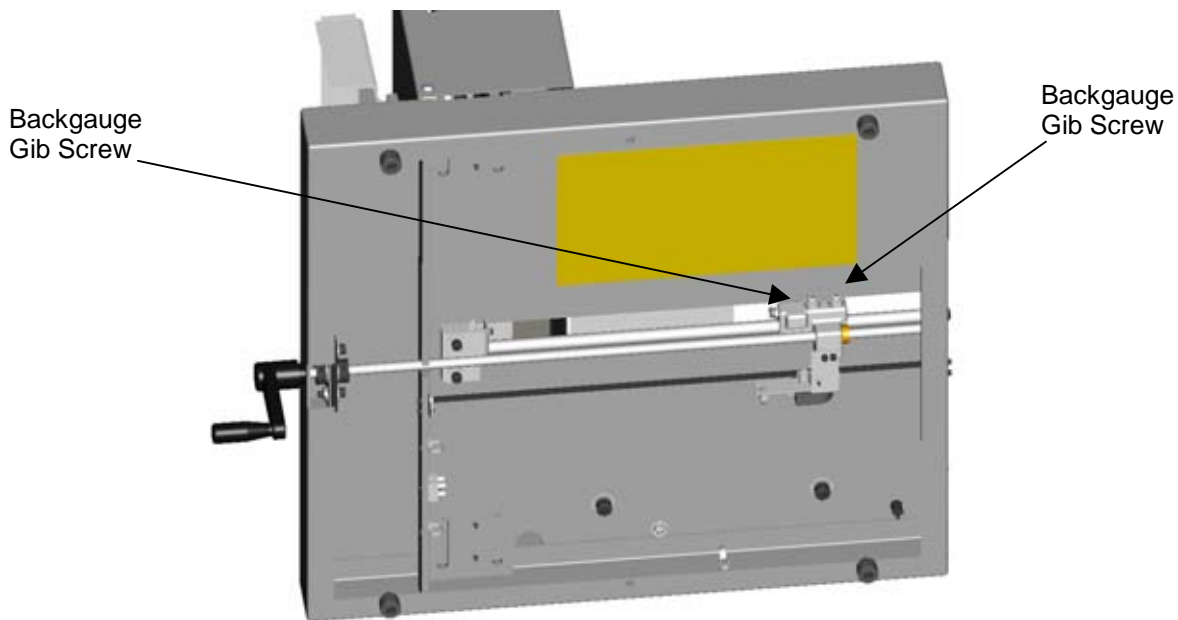

Figure 14
3. Loosen the two gib screw jam nuts (Figure 14, page 16).